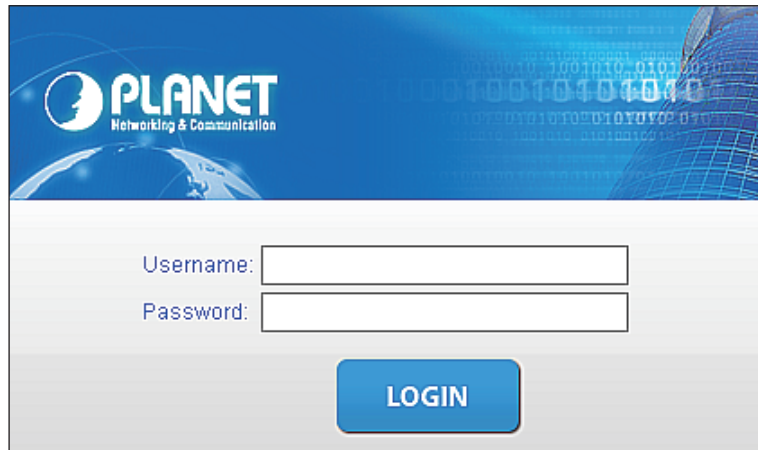

Figure 5-2: Web Login Screen
2. When the following dialog box appears, please enter the default user name "admin" and password "admin" (or the password you have changed before) as shown in Figure 5-2.